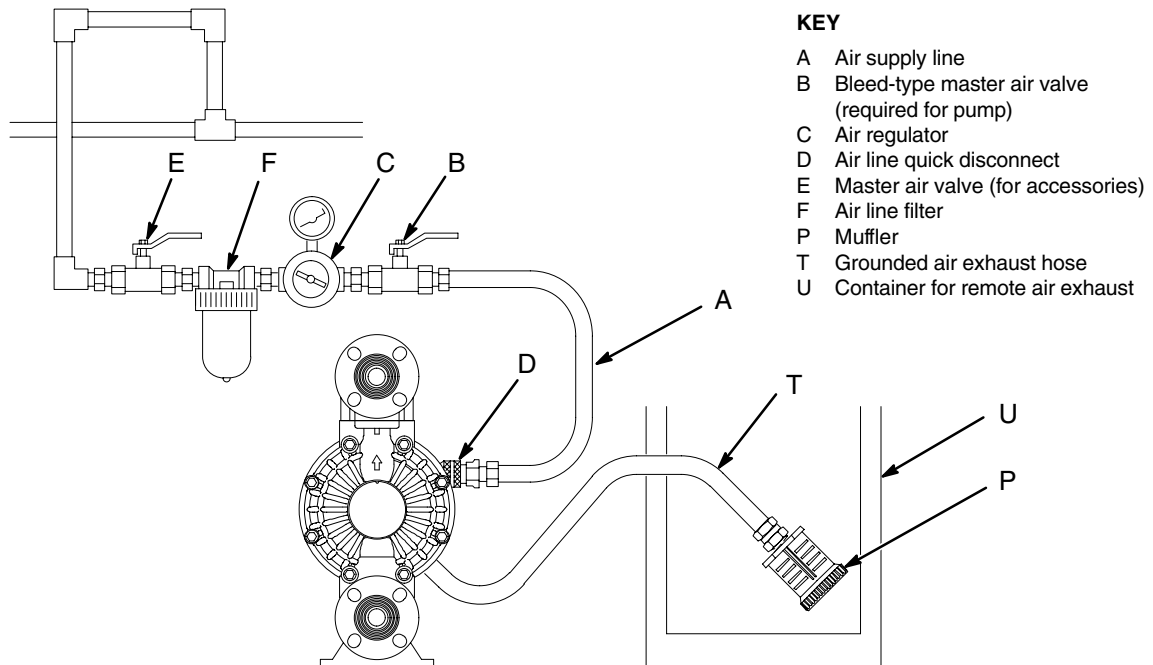

Fig. 6
Diaphragm failure will cause the fluid being pumped to exhaust with the air. Place an appropriate container at the end of the air exhaust line to catch the fluid. See Fig. 6.
1. Remove the muffler (P) from the pump air exhaust port.
2. Install a grounded air exhaust hose (T) and connect the muffler (P) to the other end of the hose. The minimum size for the air exhaust hose is 3/4 in. (19 mm) ID. If a hose longer than 15 ft (4.57 m) is required, use a larger diameter hose. Avoid sharp bends or kinks in the hose. See Fig. 6.
3. Place a container (U) at the end of the air exhaust line to catch fluid in case a diaphragm ruptures.